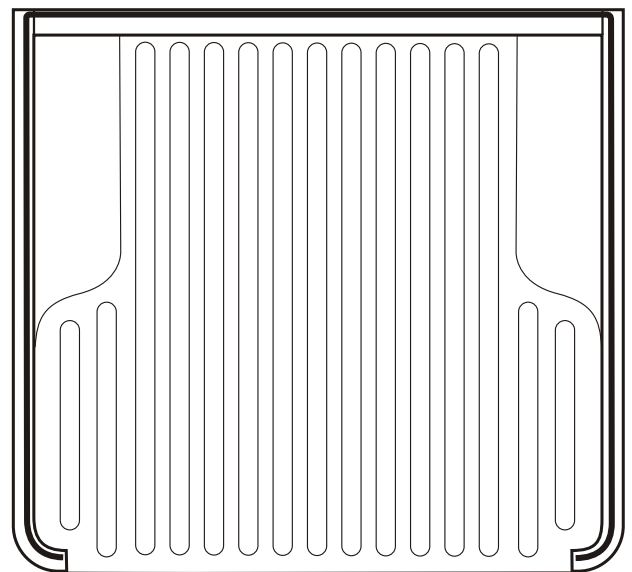

Figure 8
15. Apply the adhesive foam tape 5mm in from the inside edge of the top surface of the tray and 5mm in from the front edge of the canopy front rail. When applying the foam tape, start the tape 5mm before the start of the tray side and with 5mm over the tray edge at the other side of the opening. Do not stretch the tape when applying. Push the tape down firmly for 10 seconds to ensure permanent adhesion. Refer to figure 8.